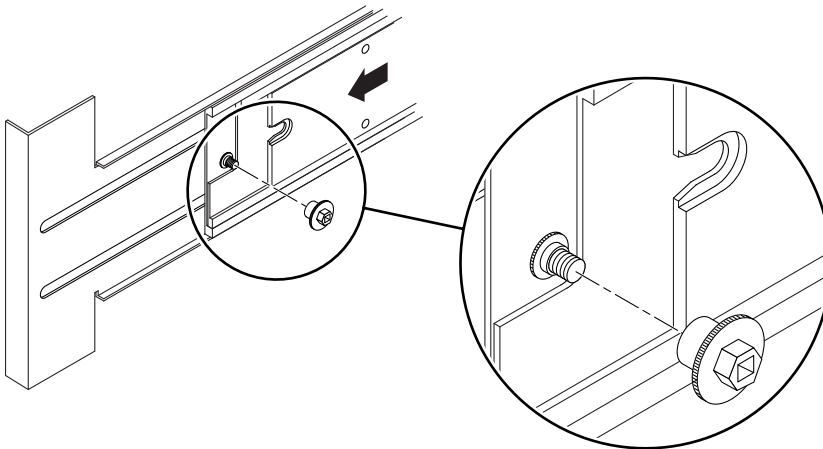

FIGURE 1-14 Inserting and Tightening the Slide Rail Locking Nut
- 5. From the rear of the system, insert and tighten the locking nut (FIGURE 1-14).**